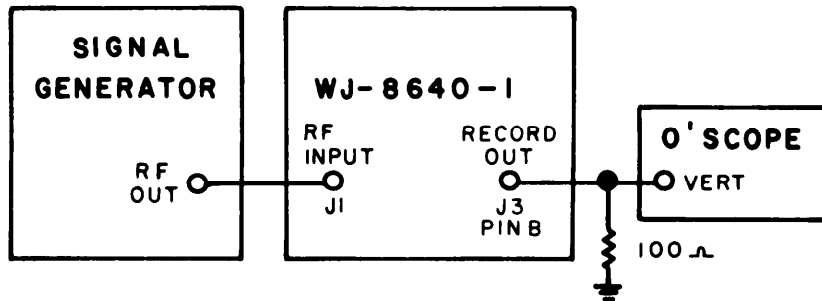

Figure 4-4. Test Setup, RF Gain Control Range Circuit
- (1) Construct the circuit as shown in Figure 4-4.